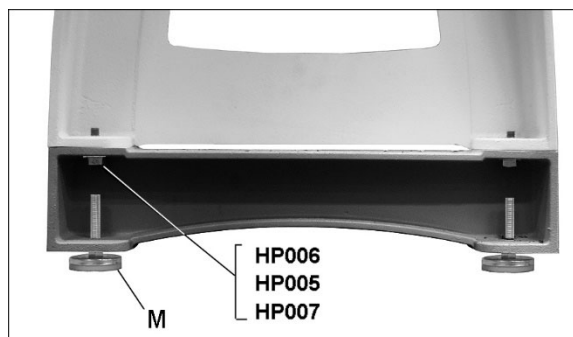

Figure 5-2: riser blocks and feet
See Figures 5-2 and 5-3.
- Install adjustable feet into bottom of legs or riser blocks (Figure 5-2) and tighten hex nut against leg casting. The feet can be adjusted later.
6. Rotate adjustable feet (Figure 5-2) as needed to establish level for the lathe. Tighten hex nut on each foot against leg casting.